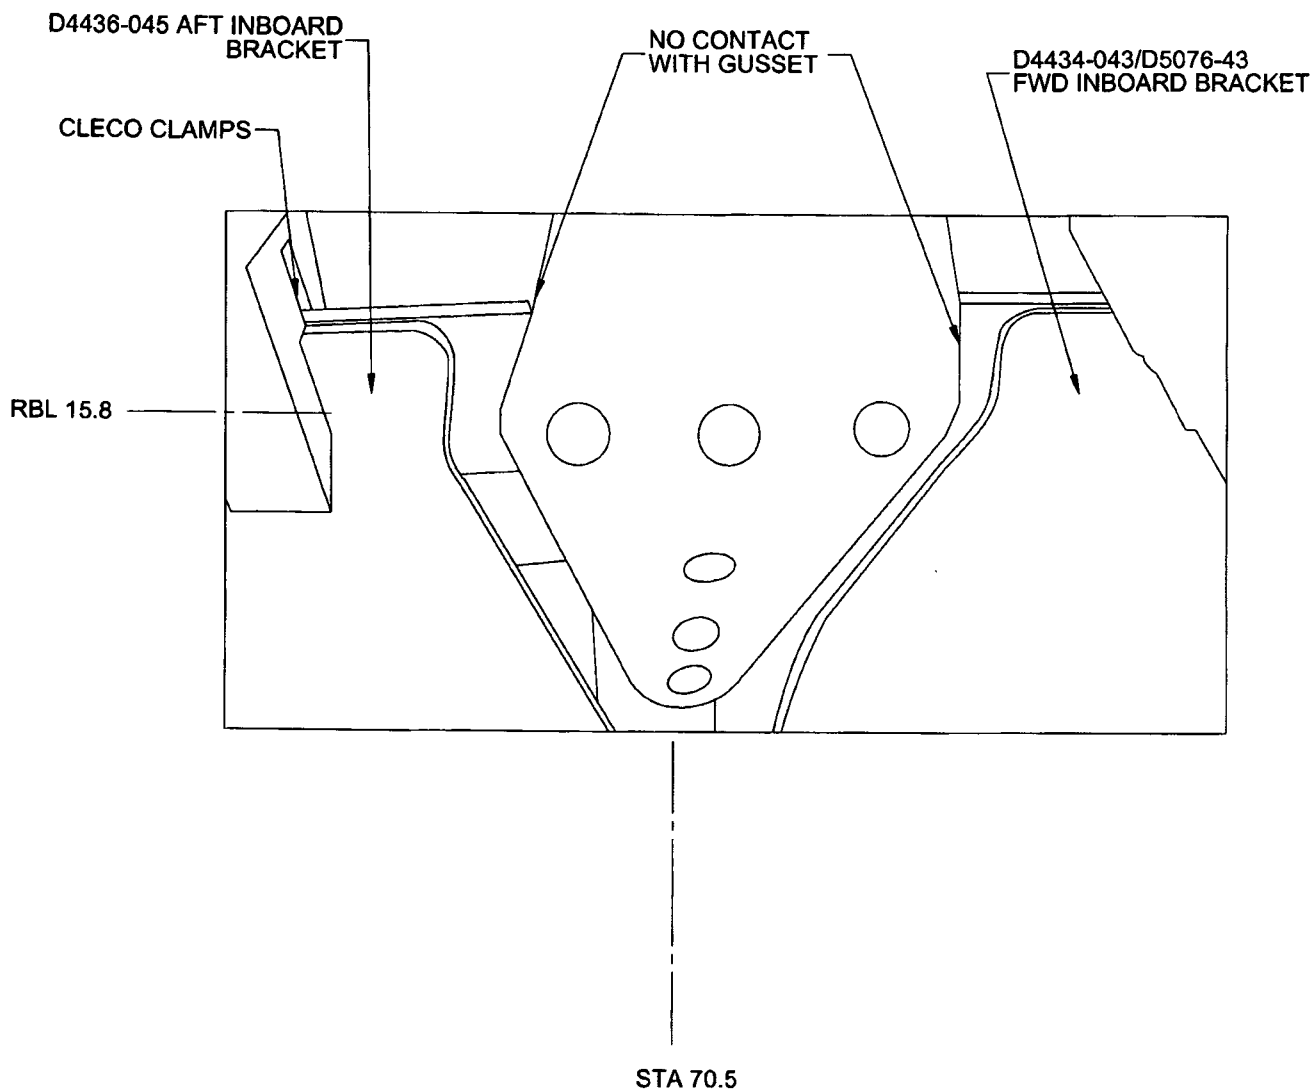

Figure 5. D4436-045 & D4434-043/D5076-043 Brackets Installation
- 4.2 Temporarily install D4434-043/D5076-043 Fwd Inboard Bracket and D4434-045 Fwd Outboard Bracket using clecos and cleco clamps. Confirm there is no contact between D4436-045 Aft Inboard Bracket and D4434-043 /D5076-043 Fwd Inboard Bracket and main beam gusset as shown in Figure 5.